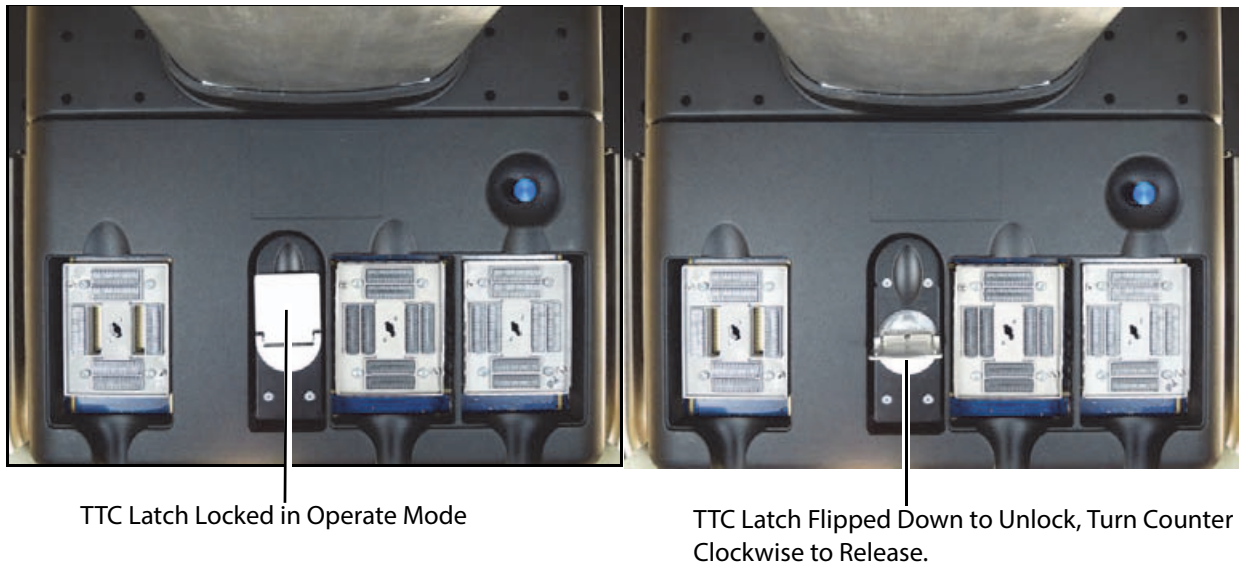

Figure 6.15 TTC Main Latch
- 1 Reach under the stand head area and unlatch the main TTC connector from the bottom of the stand head by flipping the latch handle forward and rotate counter clockwise. Refer to Figure 6.15 on page 46